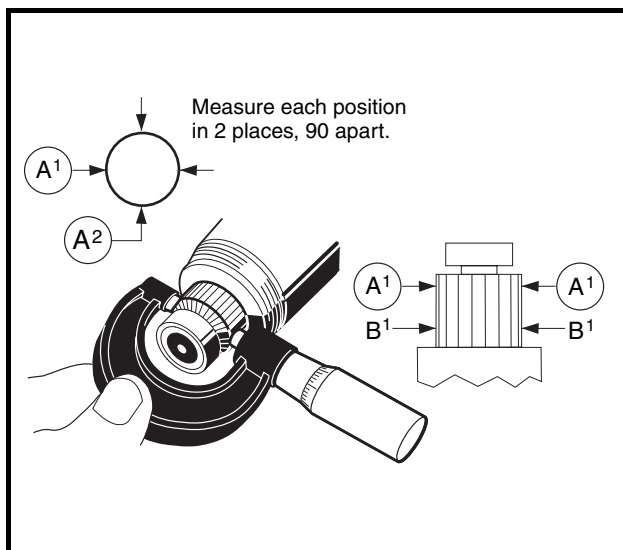

Figure 13-11 Inspect Commutator
2. Use a micrometer and measure the outside diameter at four points: two points 90° to each other to the outside end of the commutator (A¹ and A²), and two points 90° to each other to the inside of the commutator (B¹ and B²). If the commutator diameter is less than 1.535 inches (39 mm) at any of the four locations, replace the armature assembly and bearings (**Figure 13-11, Page 13-7**).